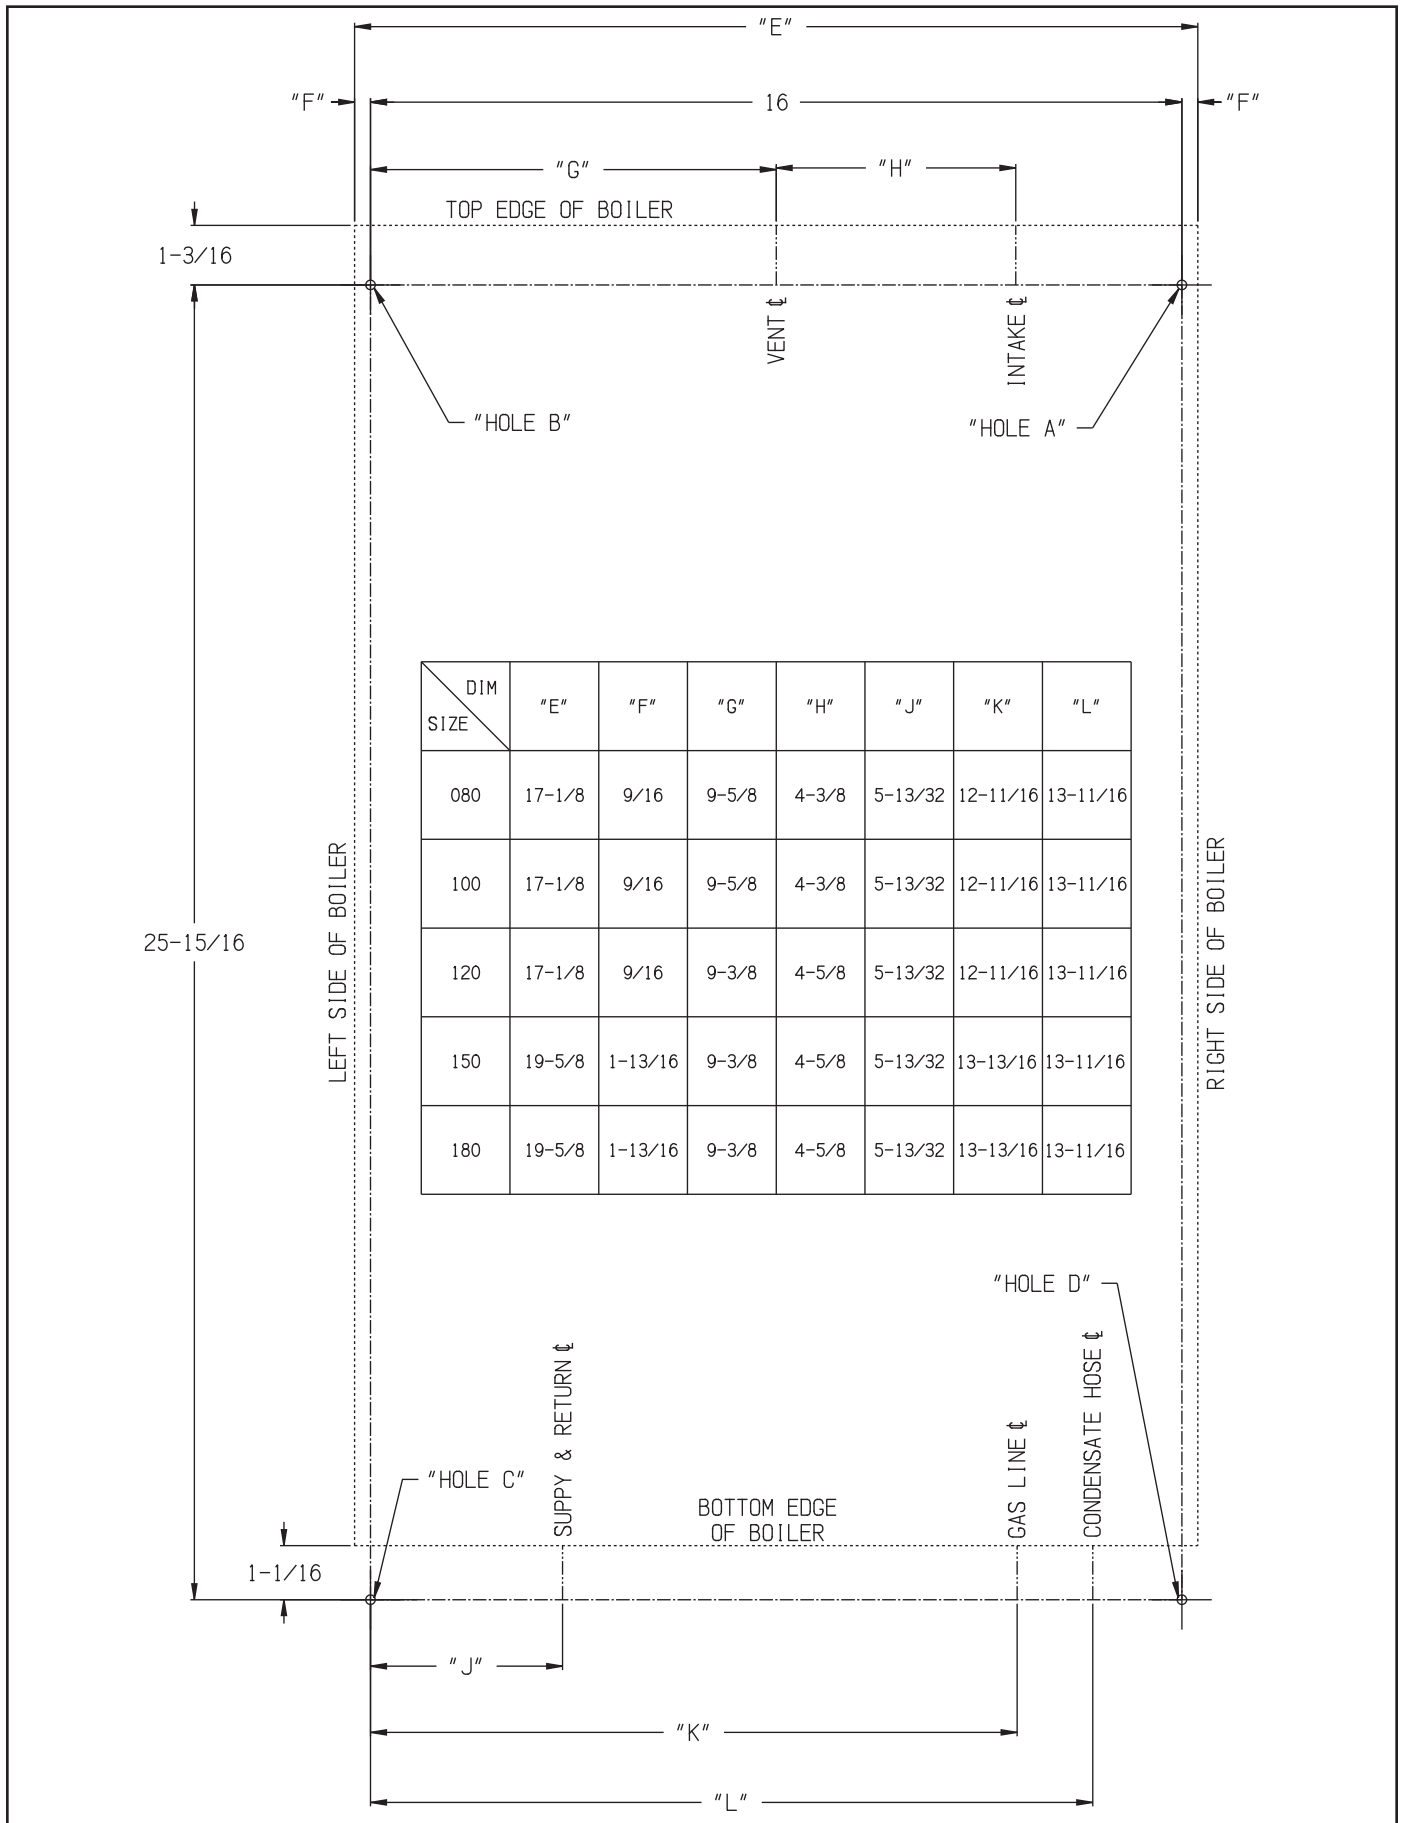

Figure 5.1 Wall Layout/Mounting Hole Location
- 5) Once a suitable location has been selected for the boiler, and any needed modifications have been made to the wall, use Figure 5.1 to locate holes "A" and "B". Make sure that the horizontal centerline of these holes is level. Holes "C" and "D" may also be drilled at this time or after the boiler is hung on the wall. If the 5/16" x 2" lag screws are used, drill 3/16" pilot holes.